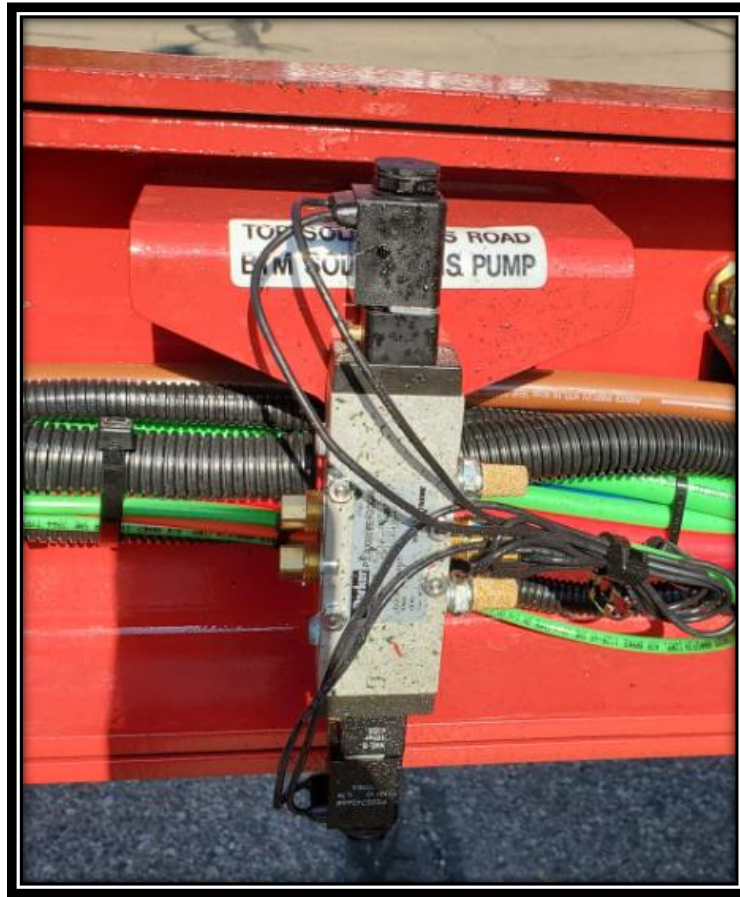

FIG 5.1
4. Locate pump shift control solenoid and mounting bracket. Refer to Figure 5.1.